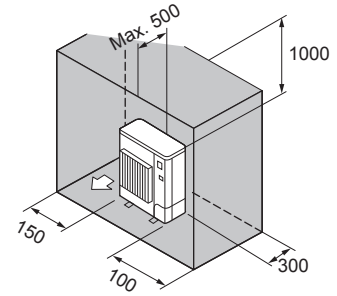

Fig. 3-11
- ⑥ Obstacles at rear, sides, and above only (Fig. 3-11)
(3) When installing multiple outdoor units (Refer to the next page)